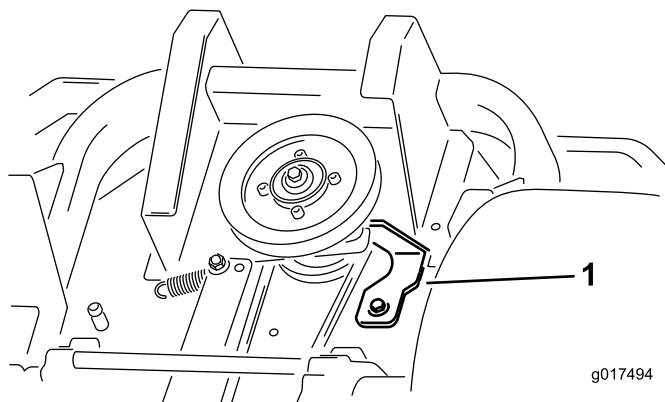

Figure 59
5. Remove the clutch stop (Figure 59).
9. Install the clutch stop (Figure 59).